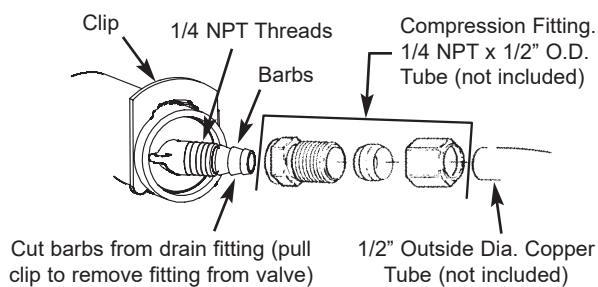

FIG. 4
- If installing a single bypass valve, push the bypass valve, with lubricated o-ring seals in place, into the valve inlet and outlet ports (See Figures 4 & 5).
- If installing a 3-valve bypass system, slide plastic installation adaptors, with lubricated o-ring seals in place, into the valve inlet and outlet ports (See Figure 4 & 5).
The house cold water pipe (metal only) is often used as a ground for the house electrical system. The 3-valve bypass type of installation, shown in Figure 4, will maintain ground continuity. If you use the plastic bypass, continuity is broken. To restore the ground, do the following:
- Take a length of 1/2" inside diameter hose and attach to the valve drain fitting, securing it with a hose clamp (See Figure 4 on page 6).
- Locate the other end of the hose at a suitable drain point (floor drain, sump, laundry tub, etc.). Check and comply with local codes. Refer to Figure 4 on page 6 if codes require a rigid pipe drain run.